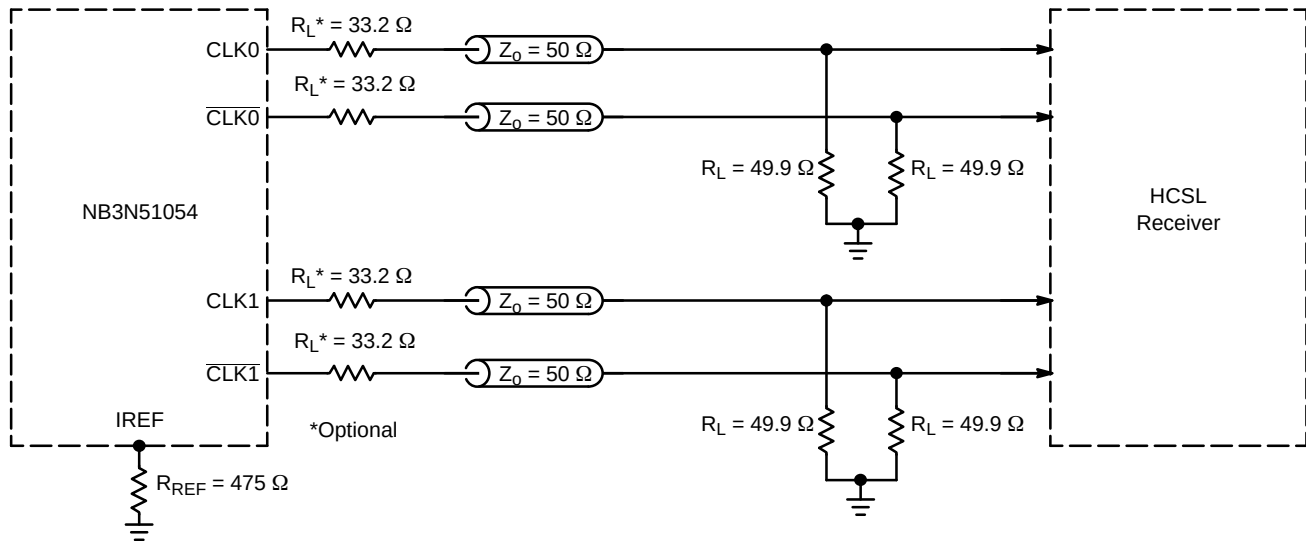
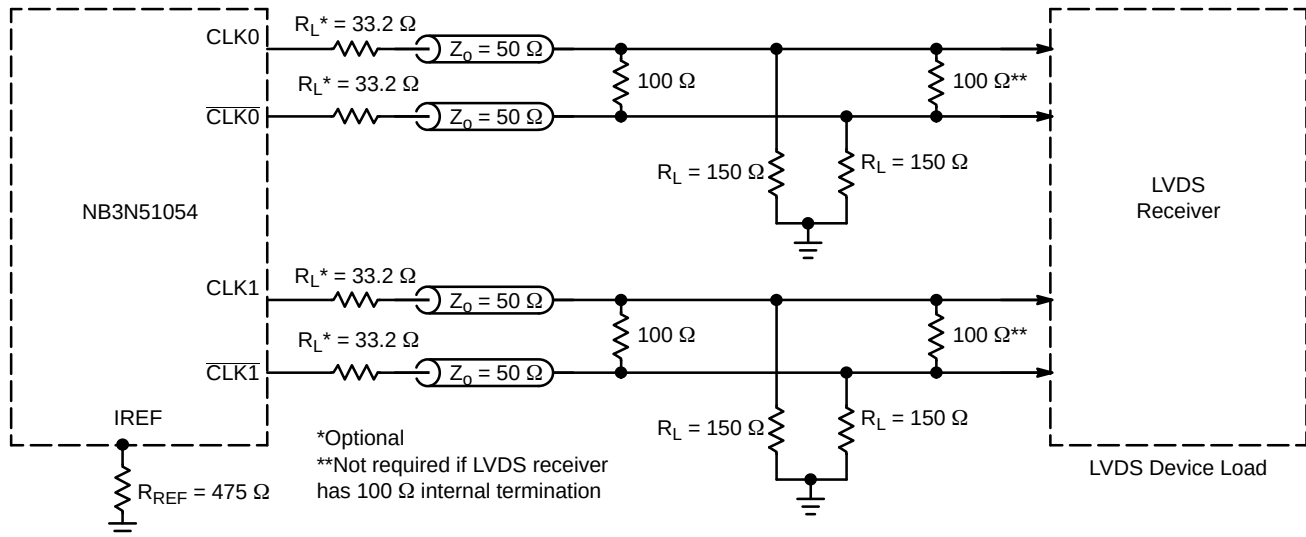

Figure 6. Typical Termination for HCSL Output Driver and Device Evaluation
Figure 7. Typical Termination for LVDS Device Load
4. Measurement taken with outputs terminated with R_S = 33.2 Ω , R_L = 49.9 Ω , with test load capacitance of 2 pF and current biasing resistor set at R_{REF} = 475 Ω . See Figure 6. Guaranteed by characterization.
9. Measurement taken from differential output on single-ended channel terminated with $R_S = 33.2 \Omega$, $R_L = 49.9 \Omega$, with test load capacitance of 2 pF and current biasing resistor set at $R_{REF} = 475 \Omega$. See Figure 6. Guaranteed by characterization.
14. Measurement taken from differential output on single-ended channel terminated with $R_S = 33.2 \Omega$, $R_L = 49.9 \Omega$, with test load capacitance of 2 pF and current biasing resistor set at $R_{REF} = 475 \Omega$. See Figure 6. This parameter is guaranteed by characterization. Not tested in production
The outputs can be terminated to drive HCSL receiver (see Figure 6) or LVDS receiver (see Figure 7). HCSL output interface requires $49.9\ \Omega$ termination resistors to GND for generating the output levels. LVDS output interface may not